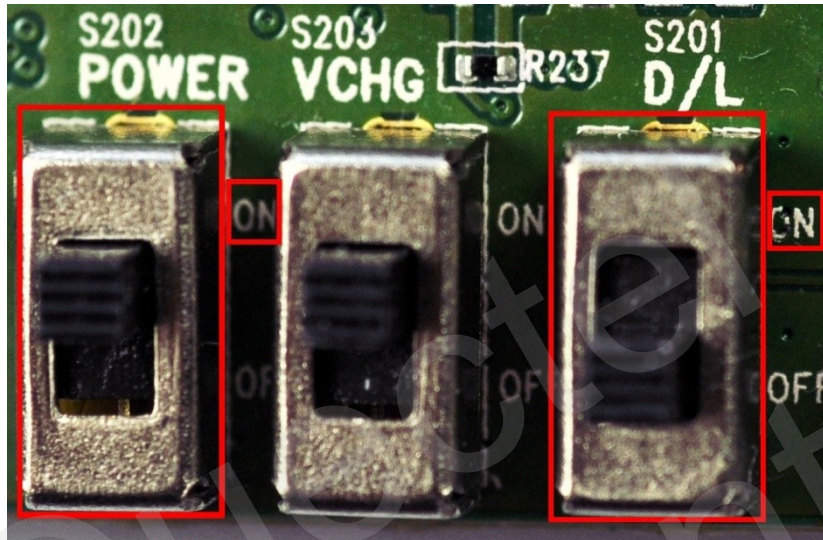

Figure 18: Switches State for Firmware Download
- (1) Start the Firmware Upgrade Tool in the PC.
- (2) Press the **START** button in the Firmware Upgrade Tool.
- (3) Switch the S201 and S202 in the EVB to **ON** state as shown in Figure 18.